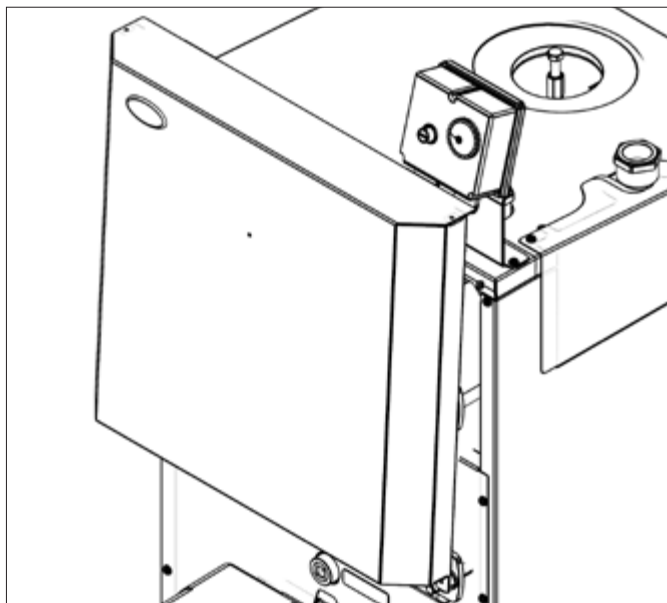

Figure 10-2: Removing the upper front panel (15/21 model)
2. Lift the upper front panel up and off the boiler. Refer to Figure 10-2.